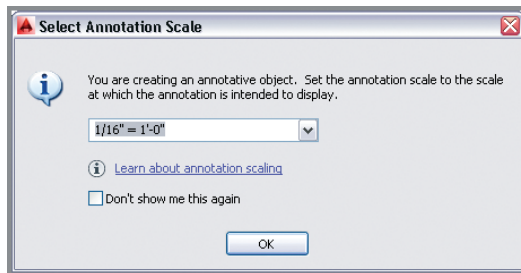

FIGURE 13.2 Selecting an annotation scale in modelspace
5. Click the Multiline Text tool in the Annotate panel on the ribbon’s Home tab. Select 1/16” = 1’-0” (or 1:200 for metric) from the drop-down menu in the Select Annotation Scale dialog box that appears (see Figure 13.2). Click OK.